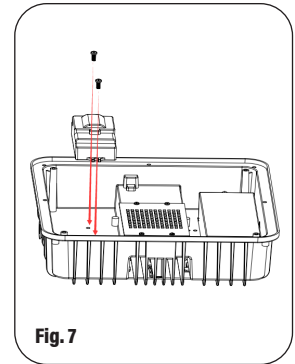

Fig. 7
Step 2: Using M4x8 screws (not included), mount the sensor to the inside of the luminaires using the predrilled holes as shown in Fig. 7.